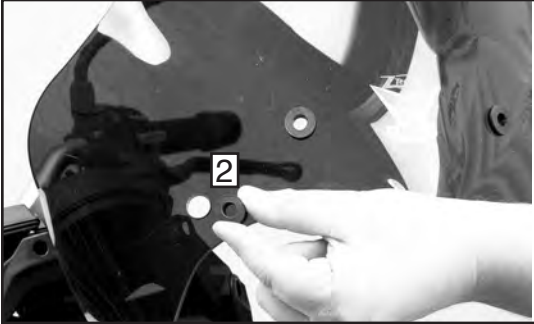

Figure 1
1. Install Grommets (2) into holes of windscreen. **Figure 1**